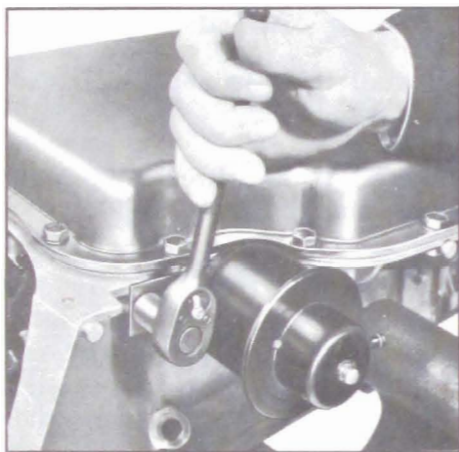

Figure 5-748
4. Install the modulator retainer and attaching bolt. Torque bolt to 15-20 ft. lbs. See Figure 5-748.